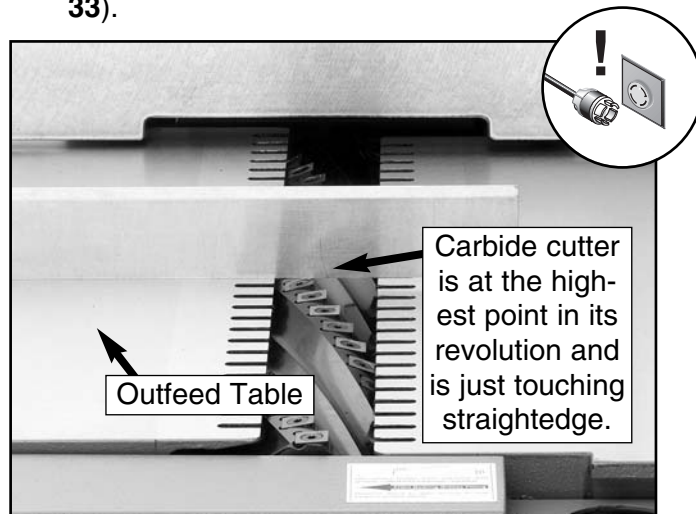

Figure 33. Setting the outfeed table.
4. Set a straightedge on the outfeed table so that it extends over the cutterhead (**Figure 33**).